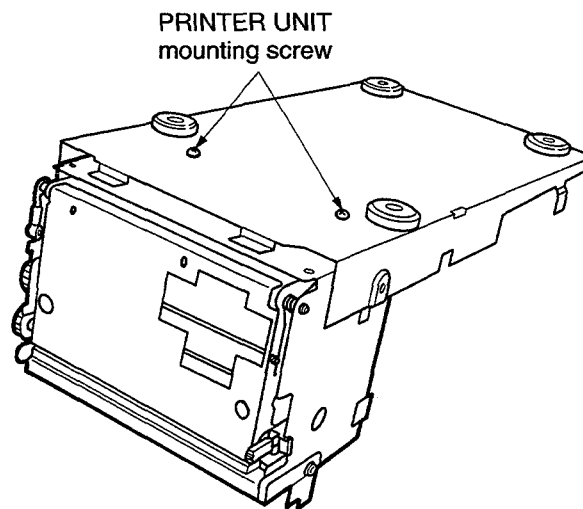

Fig.1-11
8. Remove the 2 screws securing the PRINTER UNIT. (Fig.1-11)
1. Remove the PRINTER UNIT. (Fig.1-11)